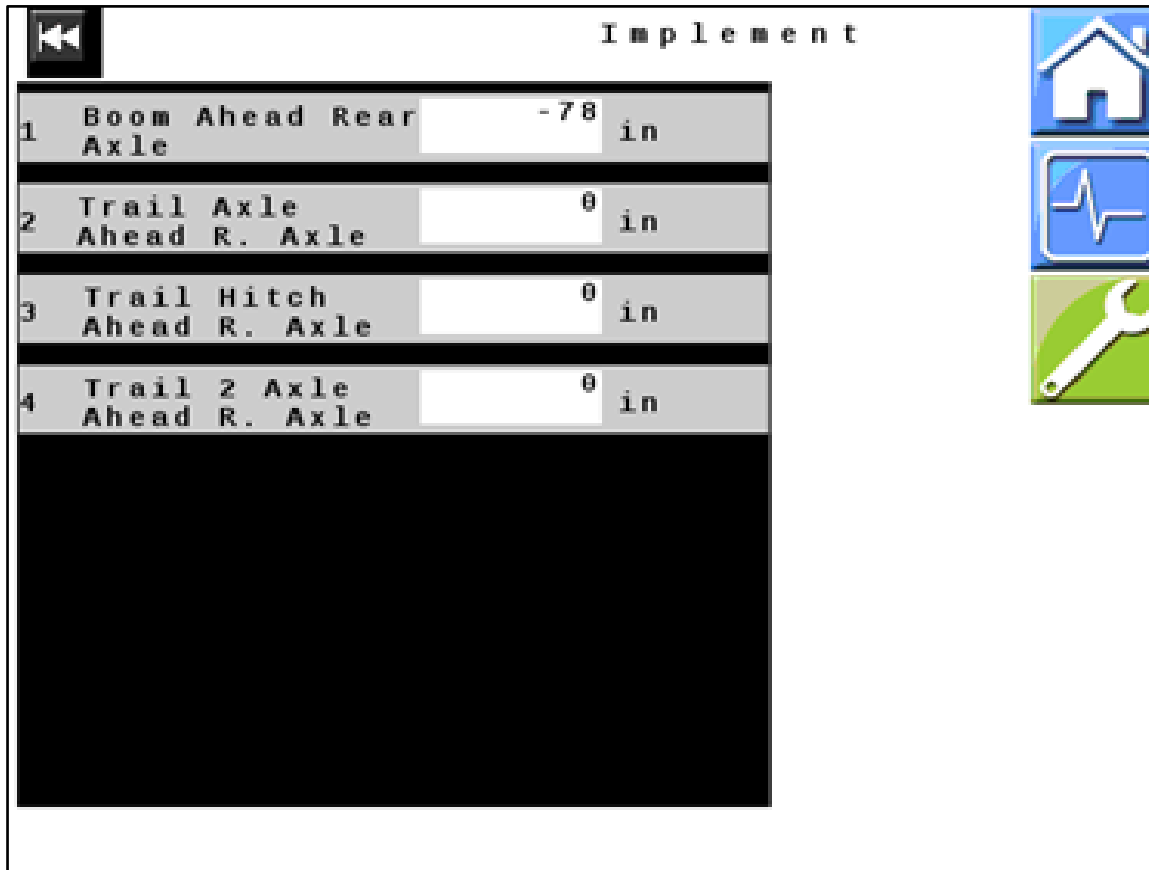

Figure 21 — Implement
36. *Figure 21*: Verify that all values displayed on your unit match those shown here. Change values if necessary.